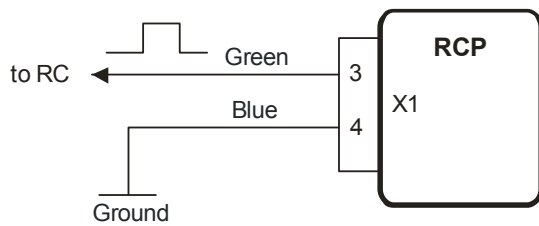
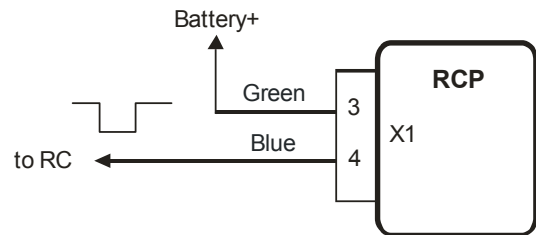

Figure 3
Figure 4
- The fig.3 presents the scheme of turning the heater on by the impulse of positive polarity. The fig.4 presents the scheme of turning the heater on by the impulse of negative polarity.